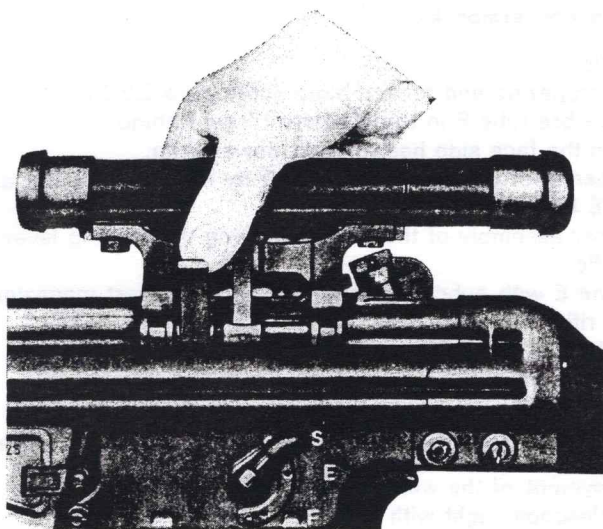

Fig. 60: Placing of the telescopic sight with mount
- Press tension lever (59/2) downwards until the catch (59/3) engages audibly (Fig. 60).